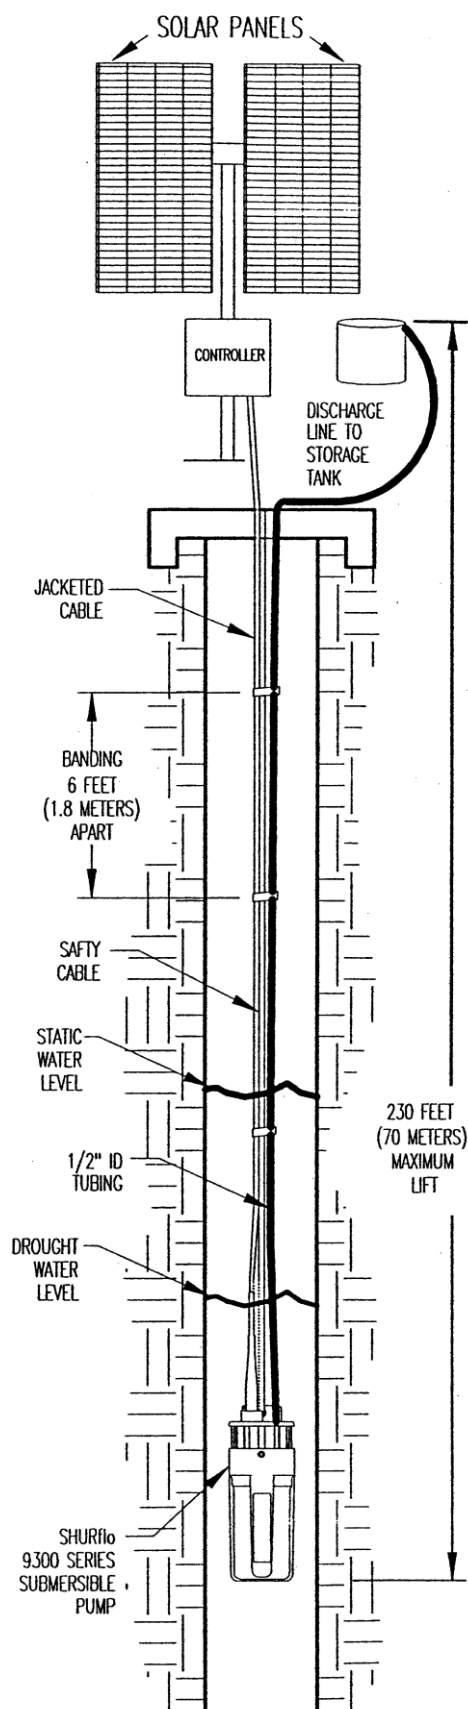

FIGURE 9
5. Band the Hose, Safety Line, and Electrical Cable (Fig. 9)
6. Install Pump (Fig. 9).